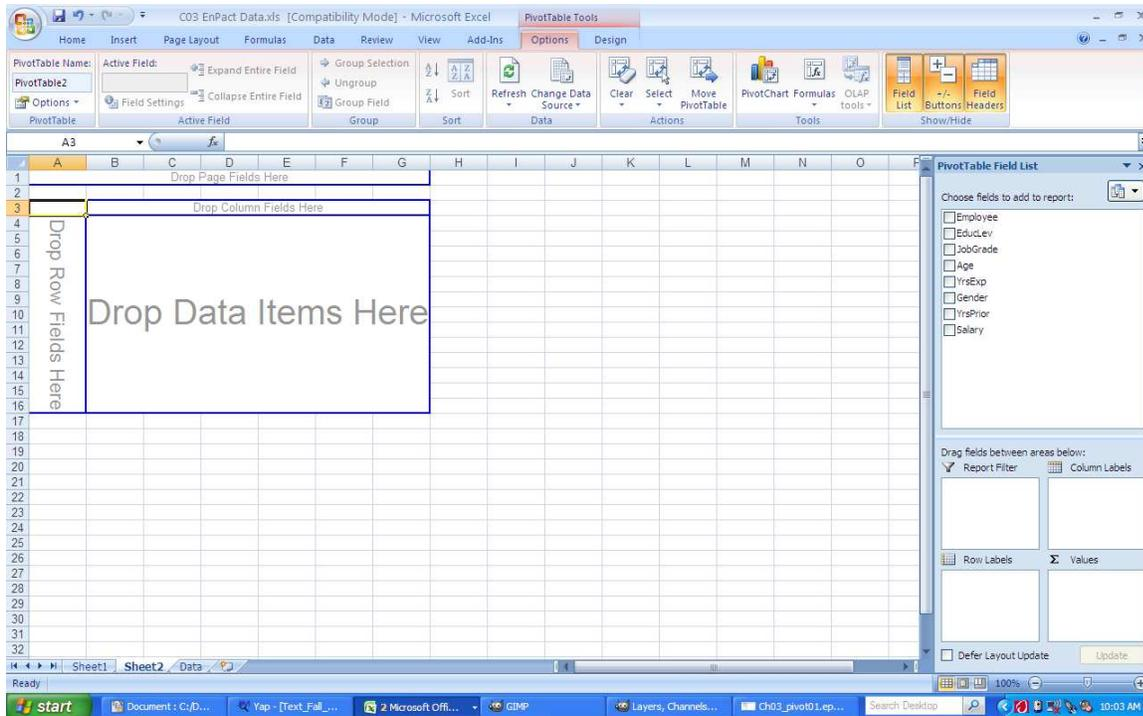

Figure 3.5: A blank pivot table.
3. Normally, you will not need to change anything else at this stage. Verify that the data range is correct, make sure it has "New worksheet" selected for where to create the table, and click "OK" and Excel will create a worksheet like the one shown in figure 3.5 (page 90).